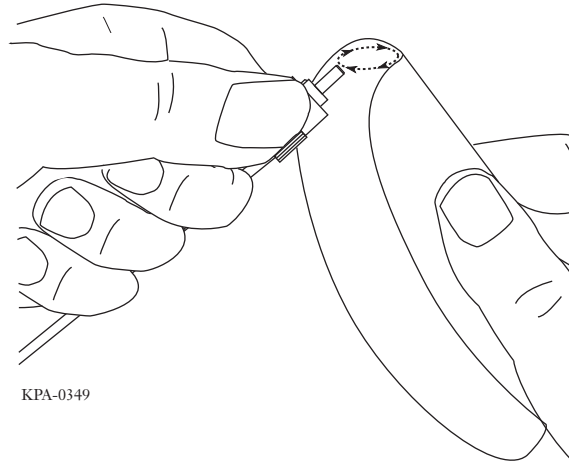

Figure 1 — Denub Ferrule
- a. Remove the sharp fiber cleave on each connector using the film noted in Step #1 of the appropriate process table. Use light hand pressure in a circular motion during this denub process as shown in Figure 1.